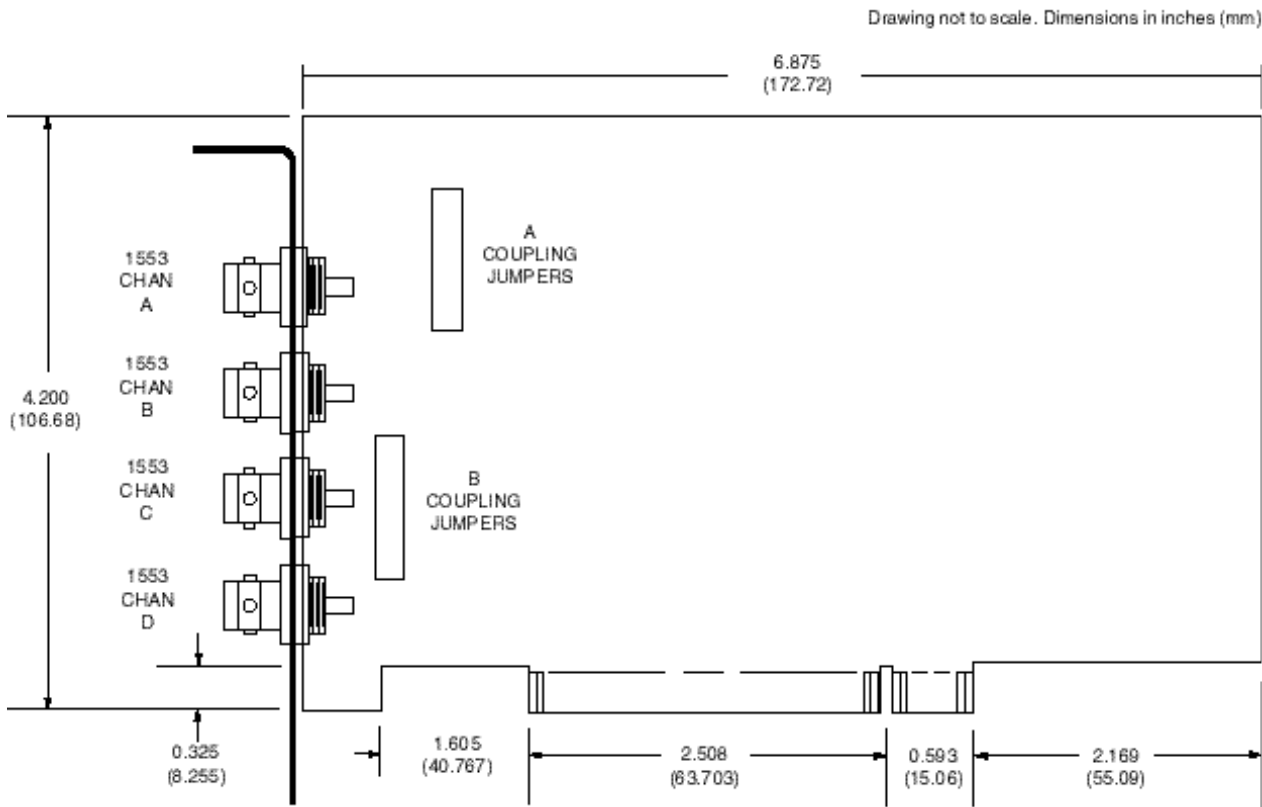

Figure 2 - BU-65549 Diagram
The **BU-65549** provides full, intelligent interfacing between the dual redundant MIL-STD-1553 Data Bus and a PCI Bus (refer to Figure 2 on page 4). Software controls the **BU-65549's** operation as a 1553 Bus Controller (BC), Remote Terminal (RT), or Bus Monitor (MT). The **BU-65549** is packaged on a half-size IBM PC/AT printed circuit board with a PCI bus interface. The board features one or two of DDC's Mini-Advanced Communication Engine + (Mini-ACE+) terminals. Each terminal provides dual transceiver and encoder/decoders, complete 1553B protocol, 64K words of shared RAM and memory management logic for all three modes.
The **BU-65549** contains jumper blocks that allow for transformer or direct coupling for each bus connection. There are no jumpers or switches to be set for address and interrupt selection. This card is designed as a Plug-and-Play device and as such, these parameters can only be changed using the Control Panel application provided with the software (refer to Figure 2).
The **BU-65549** can be interfaced to a MIL-STD-1553 bus in either Direct or Transformer-coupled mode. The two modes are configured via two jumper blocks labeled JP3 and JP4 on the card (refer to Figure 2 on page 4).